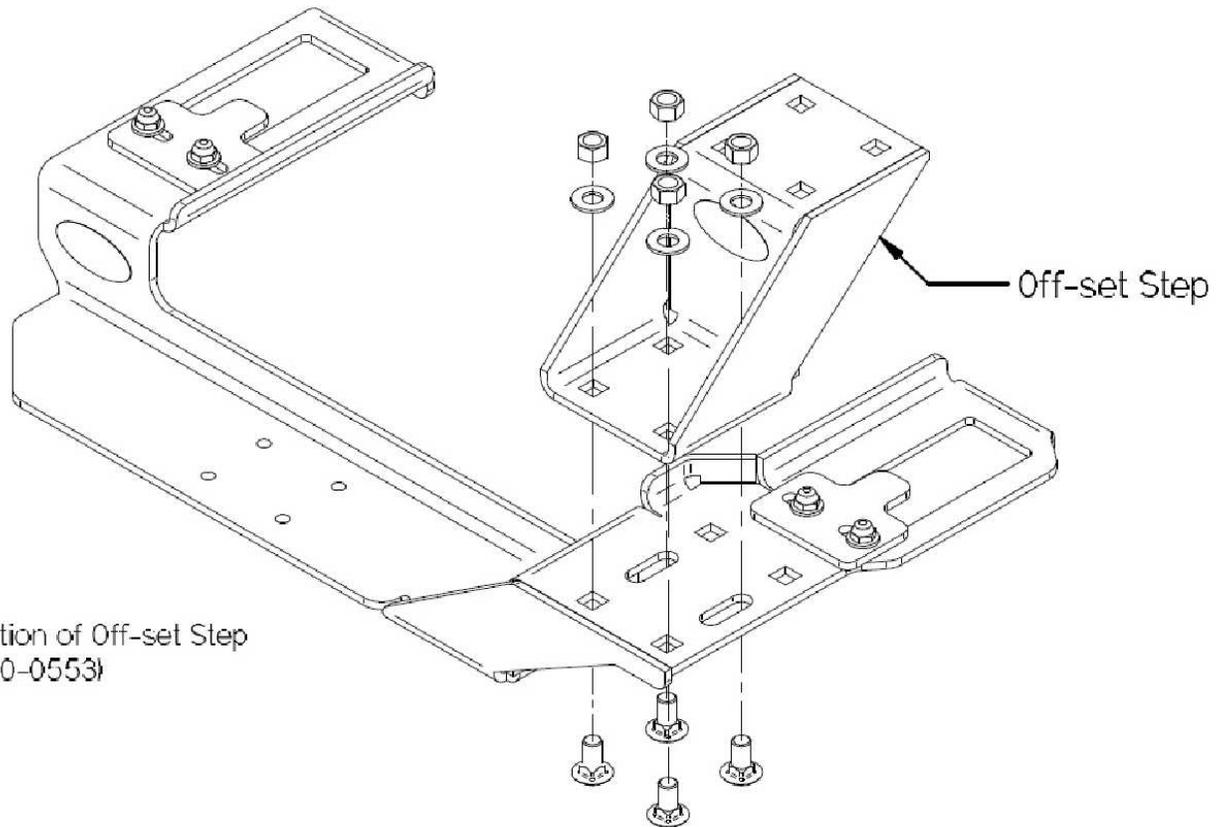

FIG. 4
7. With the 1/4-20 hardware fastened, the installation of the base is complete. If installing p/n 7160-0055, add the off-set mounting step (p/n: 7110-0553) to the base as shown in FIG.4 You can then add the desired mounting system (lower pole, upper pole, motion device and computer solution) as needed.